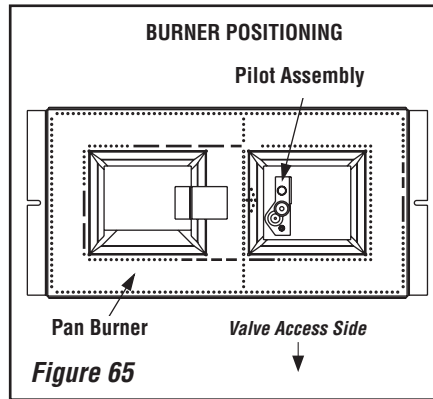

Figure 65
b. Install the burner as shown in **Figure 65**.